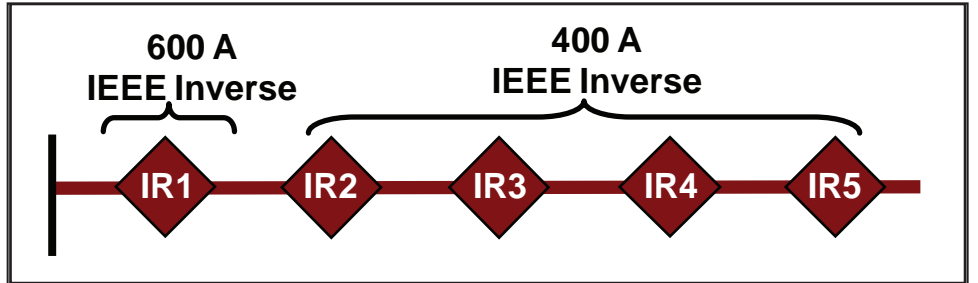

Figure 22. CEC temporary fault; IR2 and IR3 return to the fast CEC curve.
- IR2 and IR3 change back to the original TCC curves. See Figure 22 on page 43.